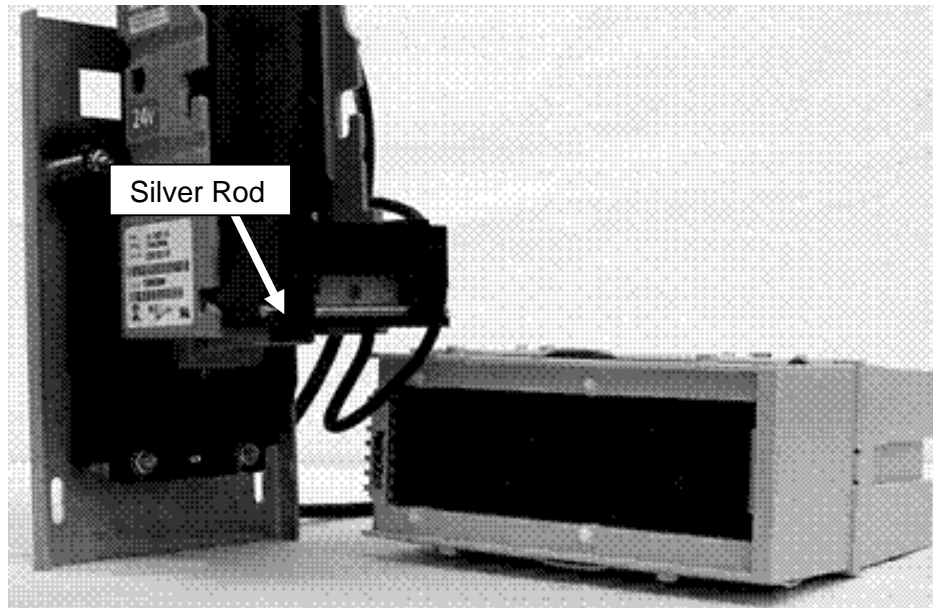

Figure 19. Mars with Lower Housing
2. Reach under the bottom of the validator and locate a silver rod in the area below where the status LED is located. (See Figure 19)